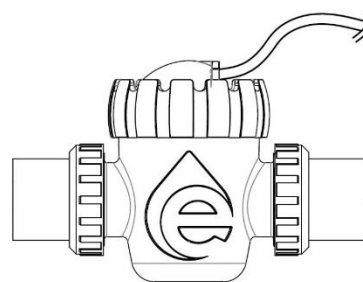

Figure 4
4. Fix the electrodes inside the holder and tighten the nut of the cell; connect the electrode cable to the control unit; tighten the nut to ensure the good contact (Figure 4).